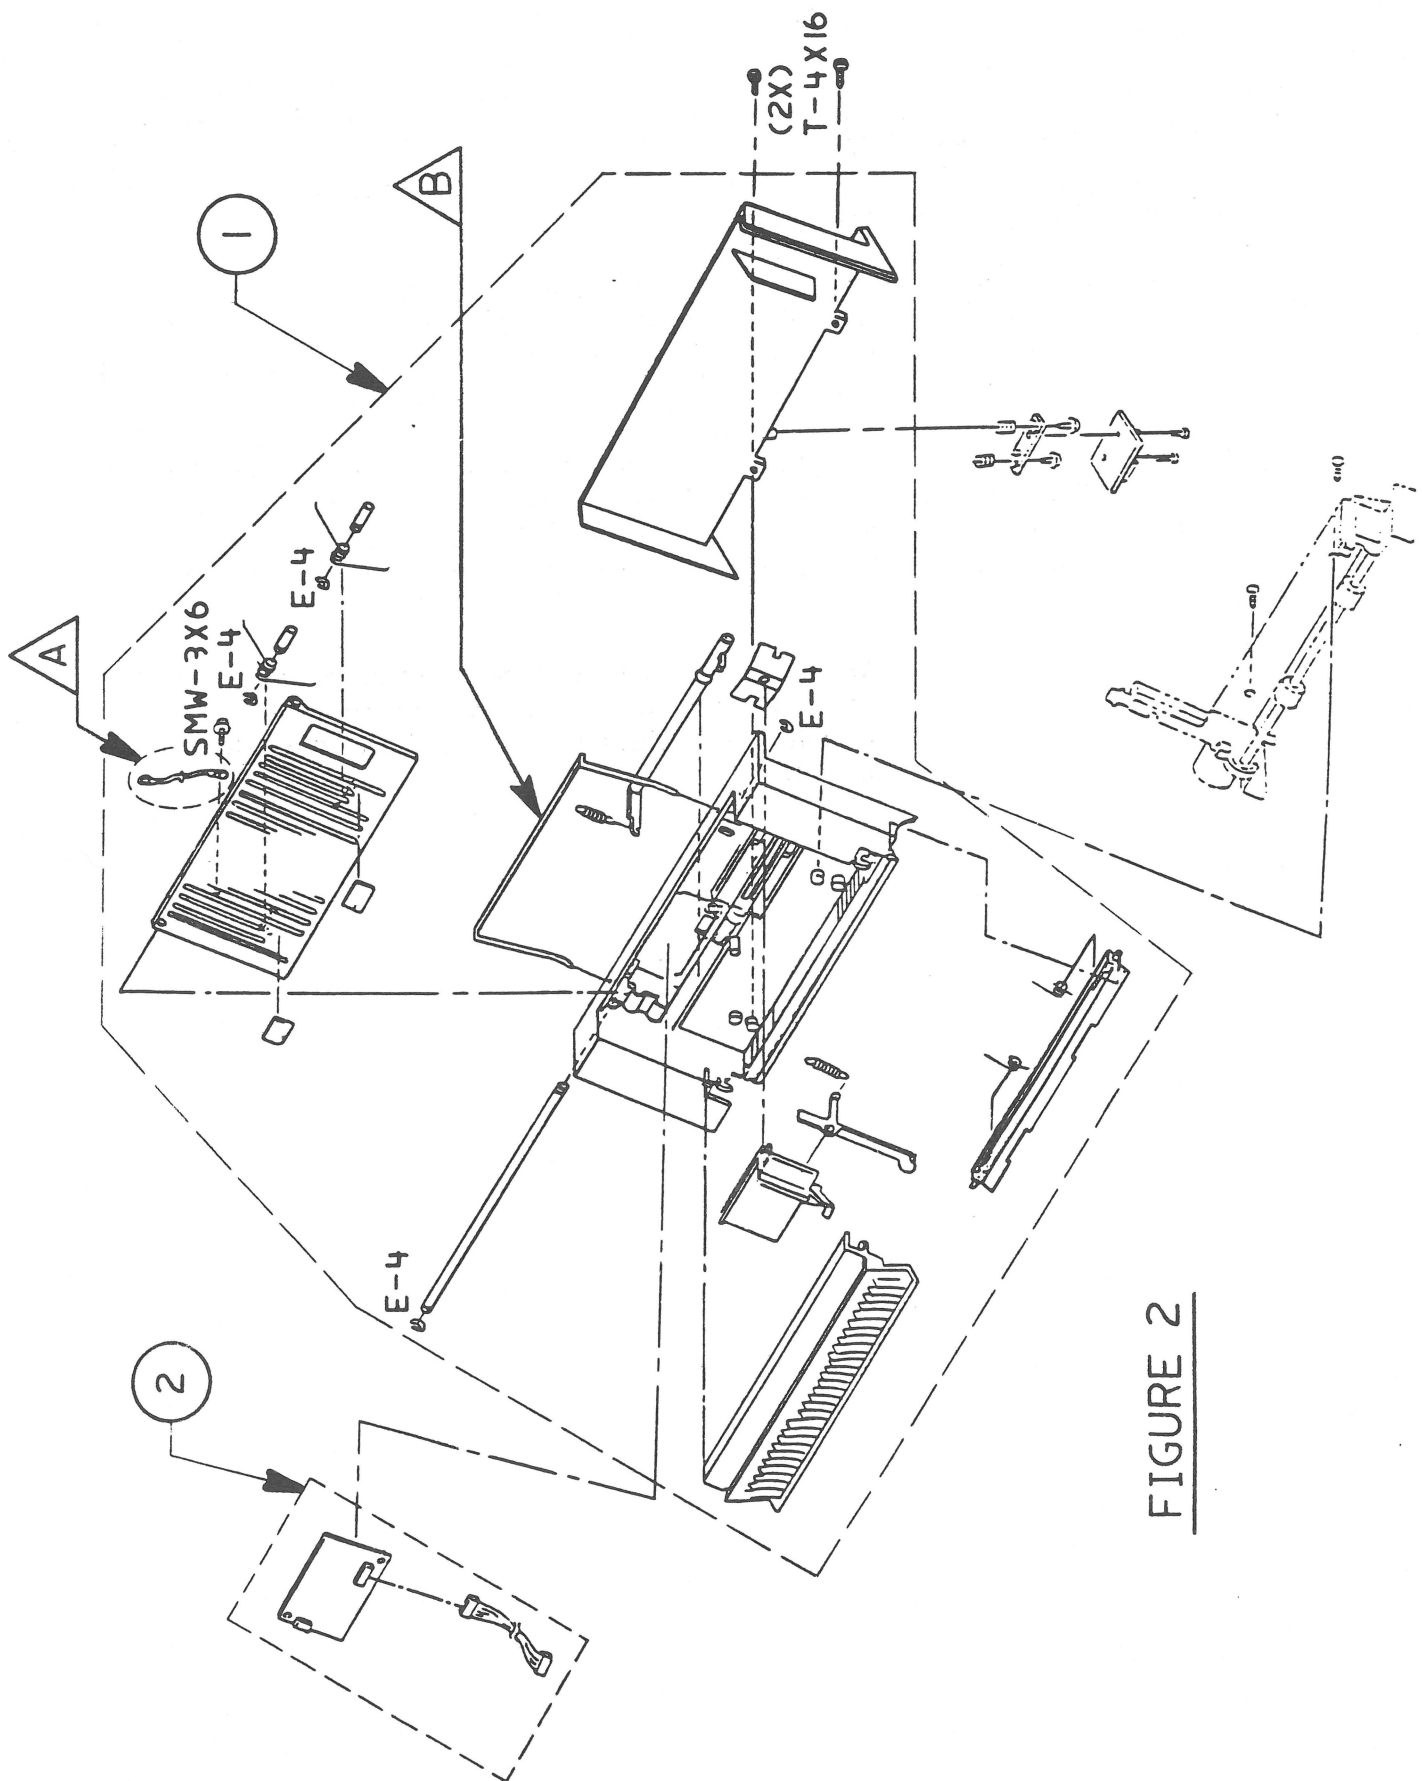

FIGURE 2
IPL.5	Housing & PCB Assembly (Figure 2)
076-0241	SheetFeeder Housing, Platinum (See Figure 2, Item 1.)
□ HOUSING AND PCB (Figure 2)